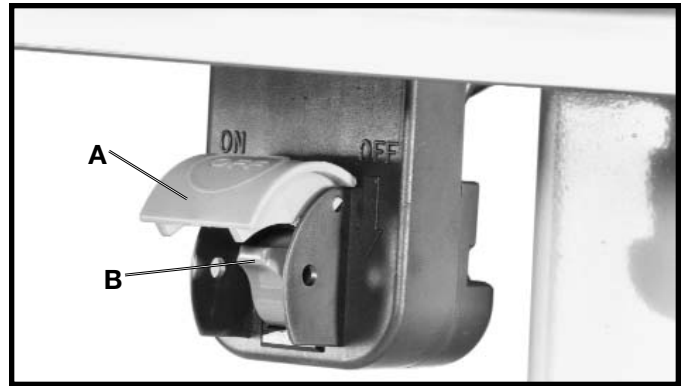

Fig. 54
1. The on/off switch is located underneath the switch shield (A) Fig. 54. To turn the saw "ON," move switch trigger (B) to the up position.